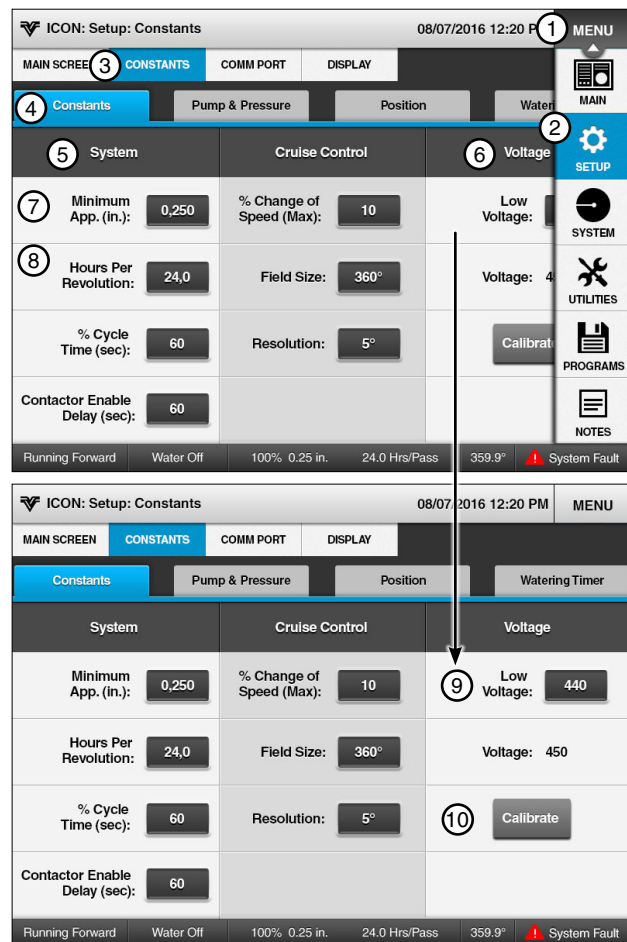

Figure 36-1
- Go to the Constants screen to set the pivot minimum application, time per revolution, and voltage. See Figure 36-1.